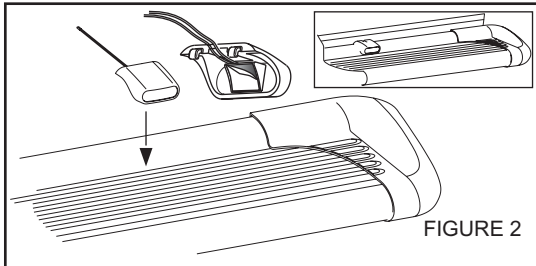
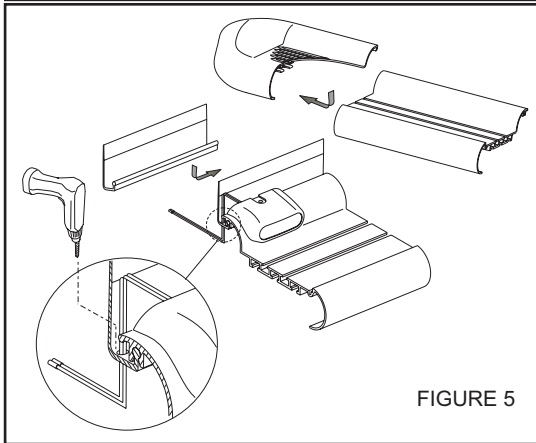

FIGURE 2
FIGURE 5
- STEP 4. For Sure-Grip Running Boards, slide closure strip as shown. Set lights (if purchased) in appropriate location. Attach to Sure-Grip Running Board as shown. **SEE FIGURE 2.** Drill hole through plastic strip and run wires as shown. **SEE FIGURE 5.**